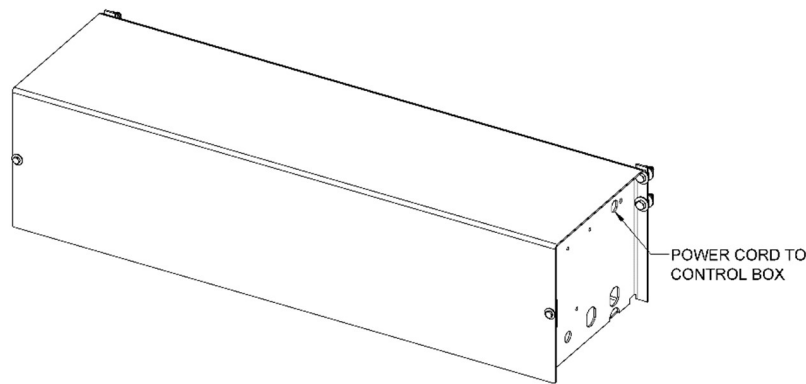

Figure 13: HPU1AC, AC Power Unit
4. Lubricate leveler with SAE 30 oil (Figure 13).